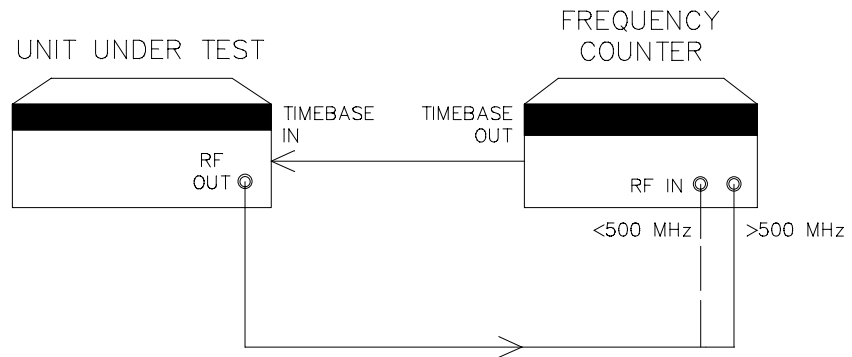

Figure 4-1. Frequency Range, Resolution, Accuracy
1. Connect the equipment as shown in Figure 4-1. Connect the UUT RF Output to the 10 MHz-500 MHz counter input using the coaxial cable and the SMA to BNC adapter. Allow the equipment at least 30 minutes of warm-up. Since the UUT and the counter use the same time base, time base errors are eliminated. The UUT will automatically switch to the external reference when it is connected.